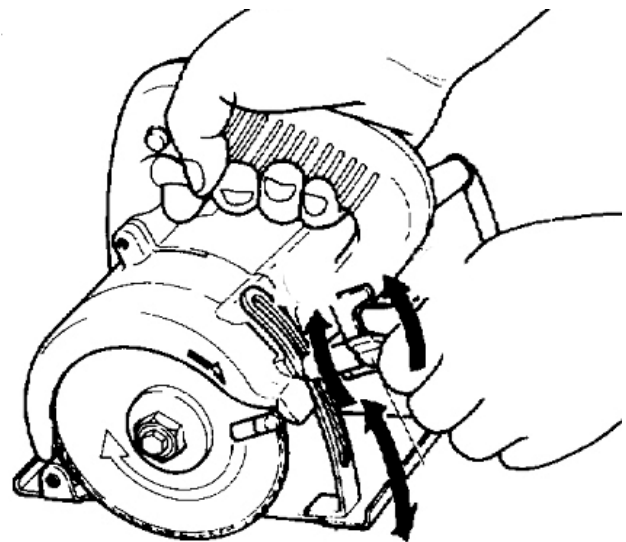

Figure 3
5. To adjust the cutting depth of the blade, loosen the Wing Bolt (48) attaching the Protection Cover (28) grooved bracket welded to the Base Plate (47). Move motor housing up and down until the desired depth (below base plate) is achieved. See Figure 3, below.